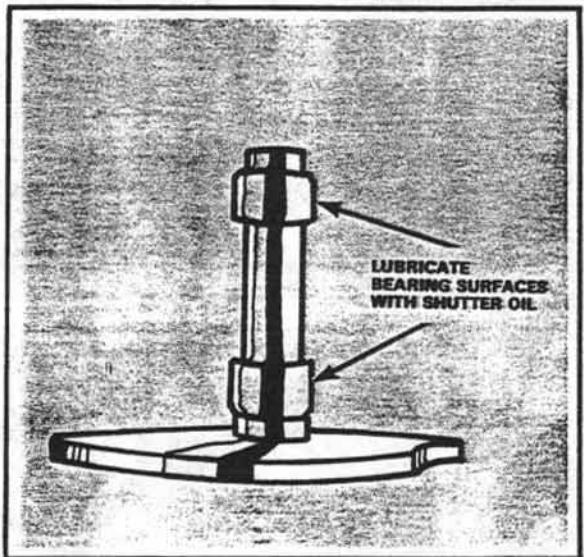

Figure 207 Release cam
**LUBRICATION:** The release cam, you'll recall, must be clean and lubricated. Lubricate the two bearing surfaces of the release cam, Fig. 207, with shutter oil. Use the shutter oil sparingly — you only want lubrication on the bearing surfaces. Also make sure that you've thoroughly cleaned the speed-selector assembly, especially the bearing hole which receives the release-cam shaft.